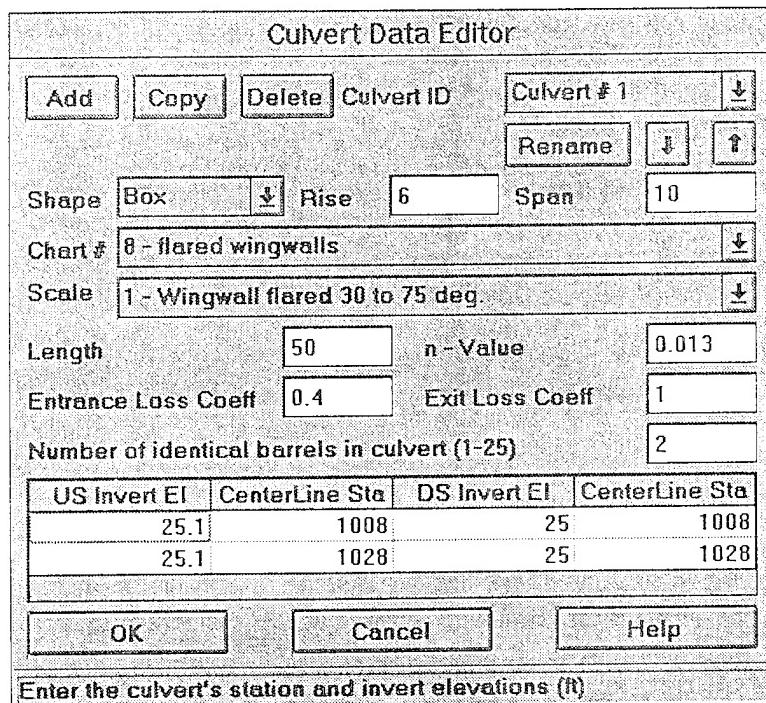

Figure 6.18 Culvert Data Editor
**Culvert Data.** To enter culvert specific information, press the **Culvert** button on the Bridge/Culvert Data Editor window. When this button is pressed, the Culvert Data Editor will appear as shown in Figure 6.18 (except yours will be blank). The information entered in the Culvert Data Editor consists of the following: